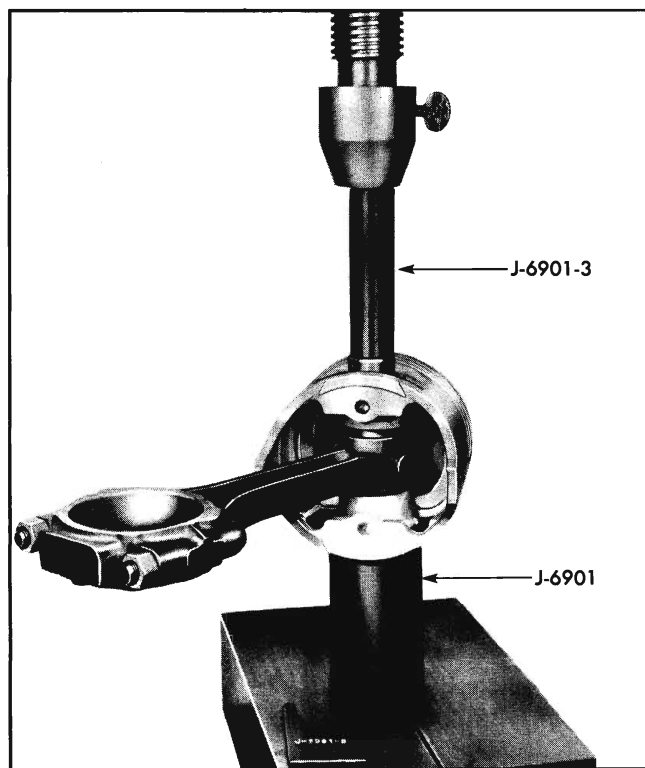

Fig. 6-57 Installation of Piston Pin
1. Place plunger and spring in tool J-6901 (Fig. 6-57) to be used as a pilot and stop.
4. Place tool J-6901-3 in piston pin and press pin into piston and connecting rod (Fig. 6-57) until piston pin bottoms against plunger of tool J-6901. Piston must turn freely on pin. If piston binds on pin, disassemble, hone piston bosses slightly and reassemble.